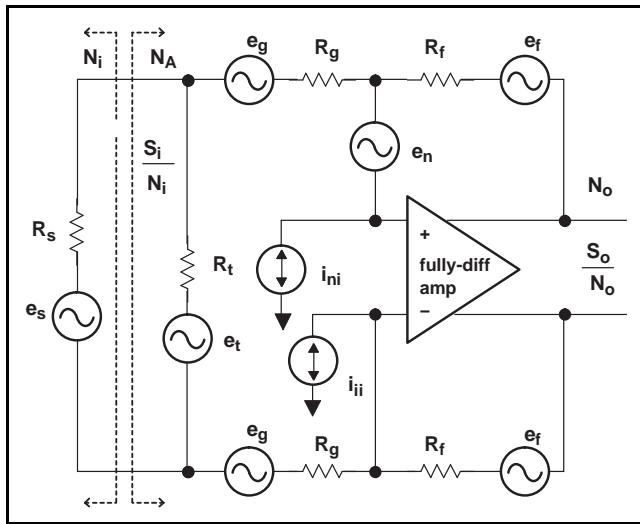

Figure 112. Noise Sources in a Fully Differential Amplifier Circuit
Noise analysis in fully differential amplifiers is analogous to noise analysis in single-ended amplifiers; the same concepts apply. Figure 112 shows a generic circuit diagram consisting of a voltage source, a termination resistor, two gain setting resistors, two feedback resistors, and a fully differential amplifier is shown, including all the relevant noise sources. From this circuit, the noise factor (F) and noise figure (NF) are calculated. The figures indicate the appropriate scaling factor for each of the noise sources in two different cases. The first case includes the termination resistor, and the second, simplified case assumes that the voltage source is properly terminated by the gain-setting resistors. With these scaling factors, the amplifier input noise power (N_A) can be calculated by summing each individual noise source with its scaling factor. The noise delivered to the amplifier by the source (N_I) and input noise power are used to calculate the noise factor and noise figure as shown in Equation 23 through Equation 27.